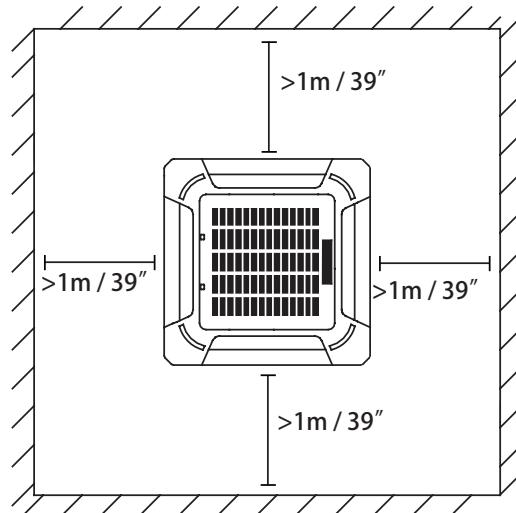

Fig. 4.3
1. Use the included paper template to cut a rectangular hole in the ceiling, leaving at least 1m (39") on all sides. The cut hole size should be 4cm(1.6") larger than the body size (See Fig. 4.3). Be sure to mark the areas where ceiling hook holes will be drilled.